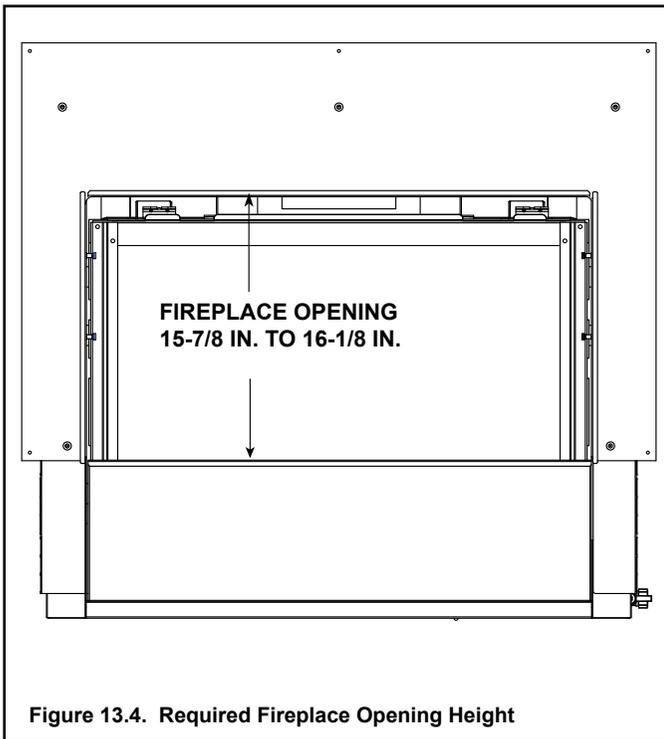

Figure 13.4. Required Fireplace Opening Height
**Note:** The lower cover panel must be pushed all the way down. The outer finishing flanges should line up. The fireplace opening must be between 15-7/8 in. and 16-1/8 in. for the decorative fronts to fit correctly. See Figure 13.4.